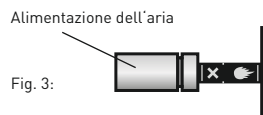

Fig. 3:
**ESTRARRE IL REGOLATORE DELL'ARIA DI COMBUSTIONE DALL'APPARECCHIO FINO ALL'ARRESTO (FIG. 3) E INFINE ACCENDERE IL MODULO DI ACCENSIONE. LASCIARE SOCCHIUO LO SPORTELLO DELLA CAMERA DI COMBUSTIONE PER CIRCA 10 MINUTI.**